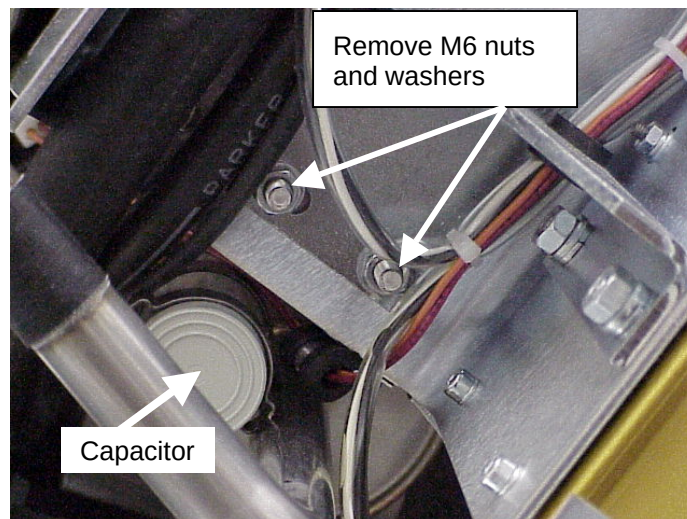

Figure 8 Bracket mount location
15. At the heat exchanger, using a 10mm socket and extension, remove the M6 nuts and washers (leave the screws in place) from the two socket cap screws at the heat exchanger location shown in Figure 8. The nuts/washers will be used in the next step. You may need a 5mm Allen wrench on the backside to keep the bolts from spinning.